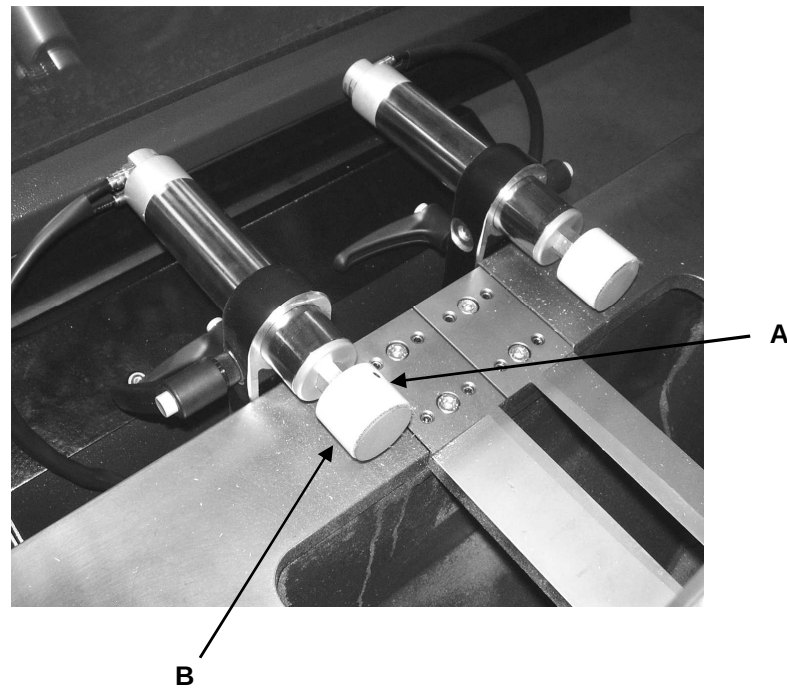

Fig. 10-07
10.3 CHANGING THE “PVC” PADS ON THE VICES (FIG. 10-07)